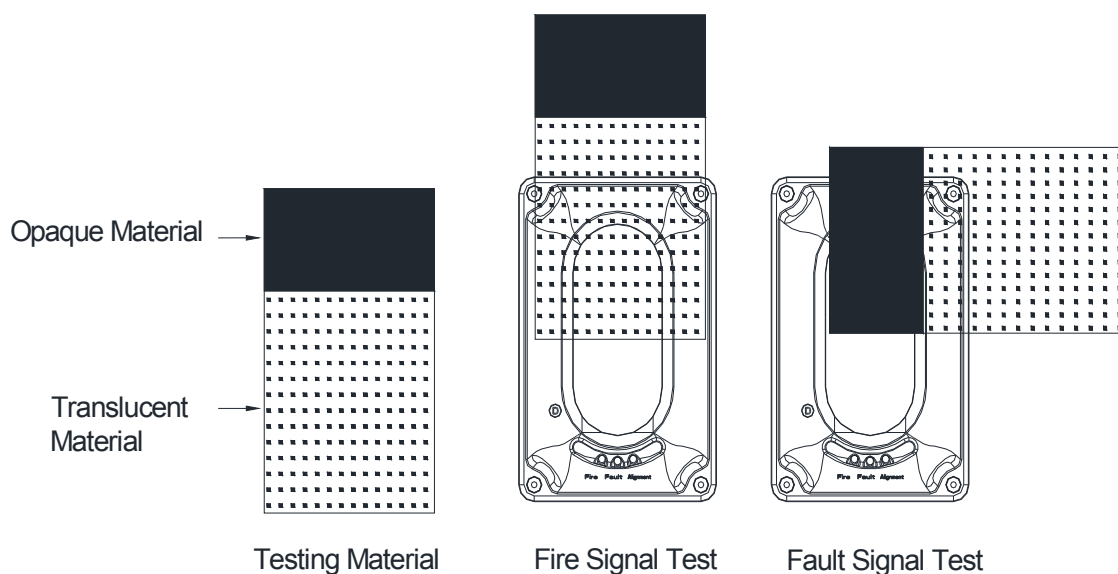

Figure 14: Testing Details
- a. Using supplied Opaque/Translucent materials, cover-on half of the beam detector using the translucent portion of the material. With less than 30 seconds the Red LED [Fire] will turn on steady, indicating Fire signal. [The fire alarm relay [HJ1 and HJ2] will latch to normally close]. Refer to Figure 14.